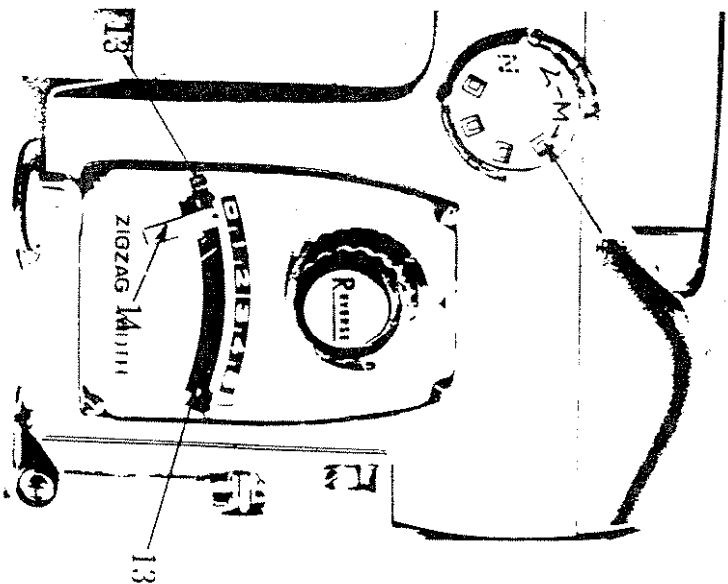

Fig. 25
1. Set decorative stitch dial 4 (Fig. 25) at M position.
2. Moving lever 14 gradually to the right will produce zigzag stitches of ever increasing width. To maintain selected widths of zigzag stitches employ lock 13 (Fig. 25).